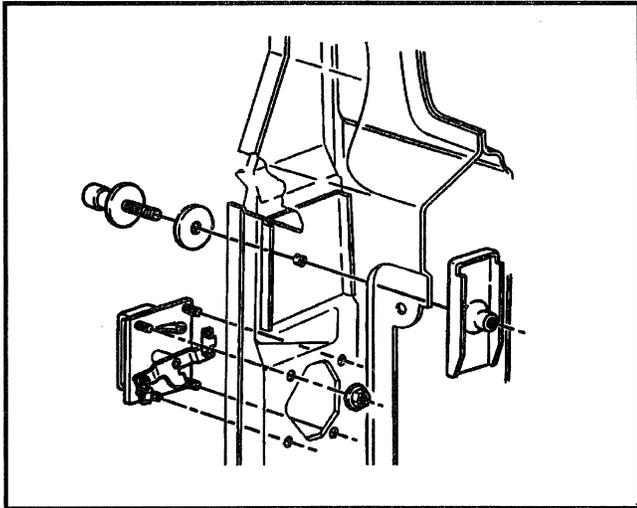

Figure 94—Rear Cargo Door Lock Striker and Latch Control Handle (Mounted to Left Door)
6. Latch control handle nuts (Figure 94).
7. Latch control handle (Figure 94).
1. Latch control handle (Figure 94).
2. Latch control handle nuts (Figure 94).
↔ Remove or Disconnect (Figure 94)
◆◆ Install or Connect (Figure 94)